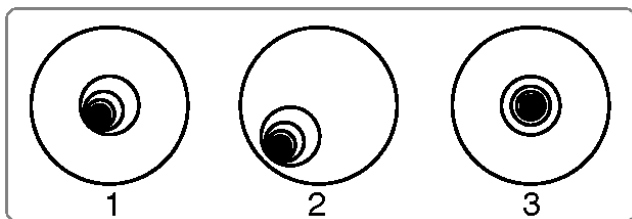
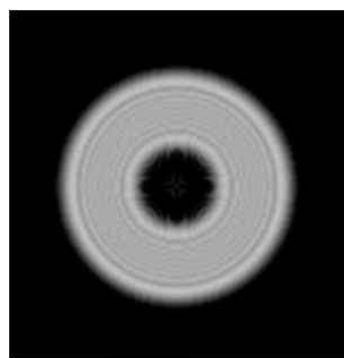

Figure 3a.
Figure 3c. Defocused star pattern in a properly collimated ACF system.
- c. Using the AudioStar's Arrow keys at the slowest slew speed, move the defocused image to the edge of the eyepiece field of view (2, Fig. 3a), in the same direction as the darker shadow is offset in the ring of light.
f. When you bring the image to center (Fig. 3a), carefully examine the evenness of the ring of light (concentricity, Figure 3c). If you find that the dark center is still off in the same direction, continue to make the adjustment in the original turning direction. If it is now off in the opposite direction, you have turned too far and you need to turn in the opposite direction. Always double check the image in the center of the field of the eyepiece.